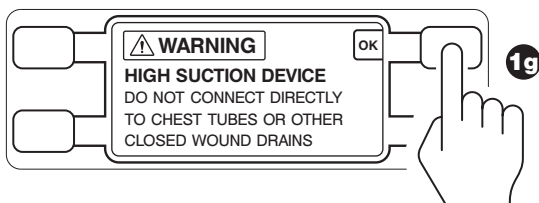

Figure 21 High Suction Device Warning
- g. Read the WARNING message on the control panel display, then push the control panel display button next to OK to access the CONTROL screen (Figure 21).